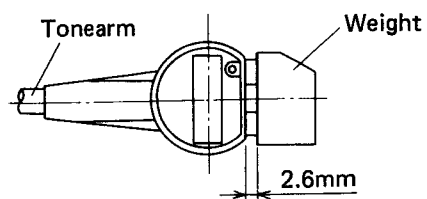
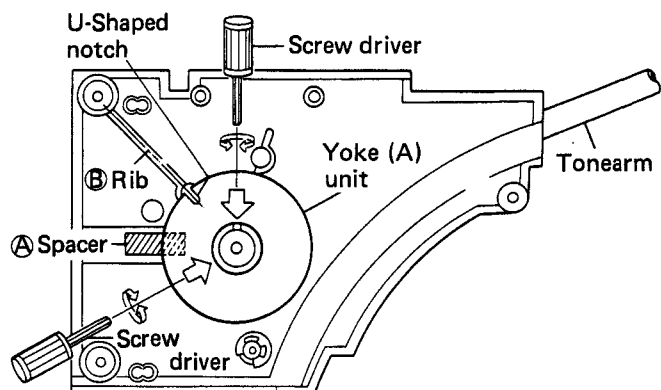

Fig. 1-6 Tracking force adjustment
Fig. 1-9 Positioning the Yoke (A) unit 1
1. With the gap between the tonearm and balance weight set to 2.6mm as shown in Fig. 1-6, tighten the weight in that position.
■ Positioning the Yoke(A) Unit
1. When mounting the tonearm, align the center of the screw with the tonearm groove, and tighten the hex screw by applying a torque of 6kg.cm (see Fig. 1-9).
2. Insert a 2mm spacer in (A) at this stage. Then with the tonearm in the arm rest, align the center of rib (part A) with the center of the U-shaped notch in the yoke (A) unit, and tighten the two hex screws by applying torque of 12kg.cm (see Fig. 1-9). Remove the spacer after tightening the screws.